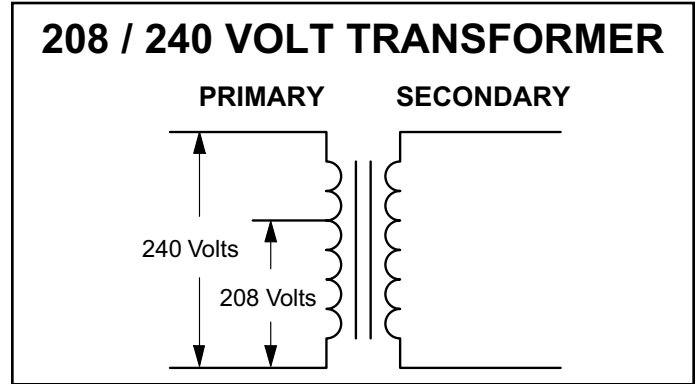

Figure 16
3. Using the wiring diagram located on the unit access panel as a reference, move the black transformer leads from the 240-volt terminal on the transformer to the 208-volt terminal on the transformer. See figure 16.